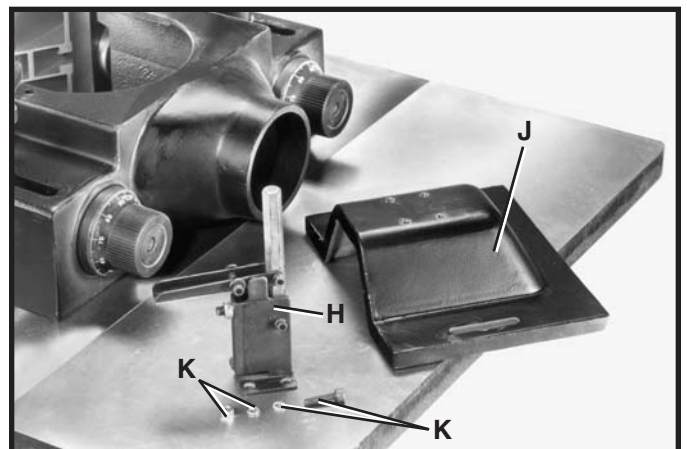
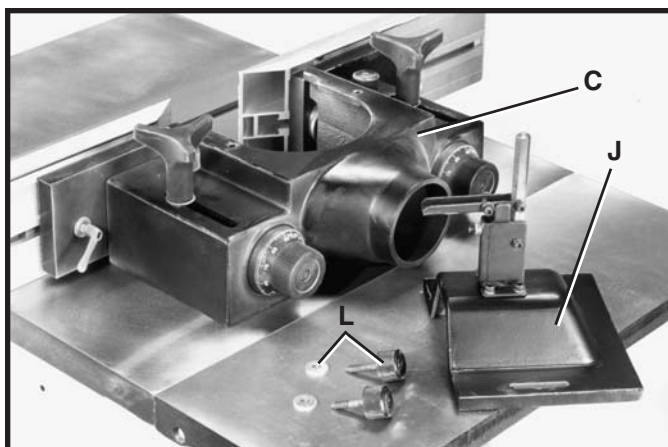

Fig. 21
Fig. 22
7. Assemble guard mounting bracket (H) Fig. 21, to top cover (J) using the four inch-long hex head cap screws, hex nuts, and eight lock washers (K) as shown in Fig. 22.
8. Assemble top cover (J) Fig. 22, to top of fence body (C) using the two locking knobs and washers (L).